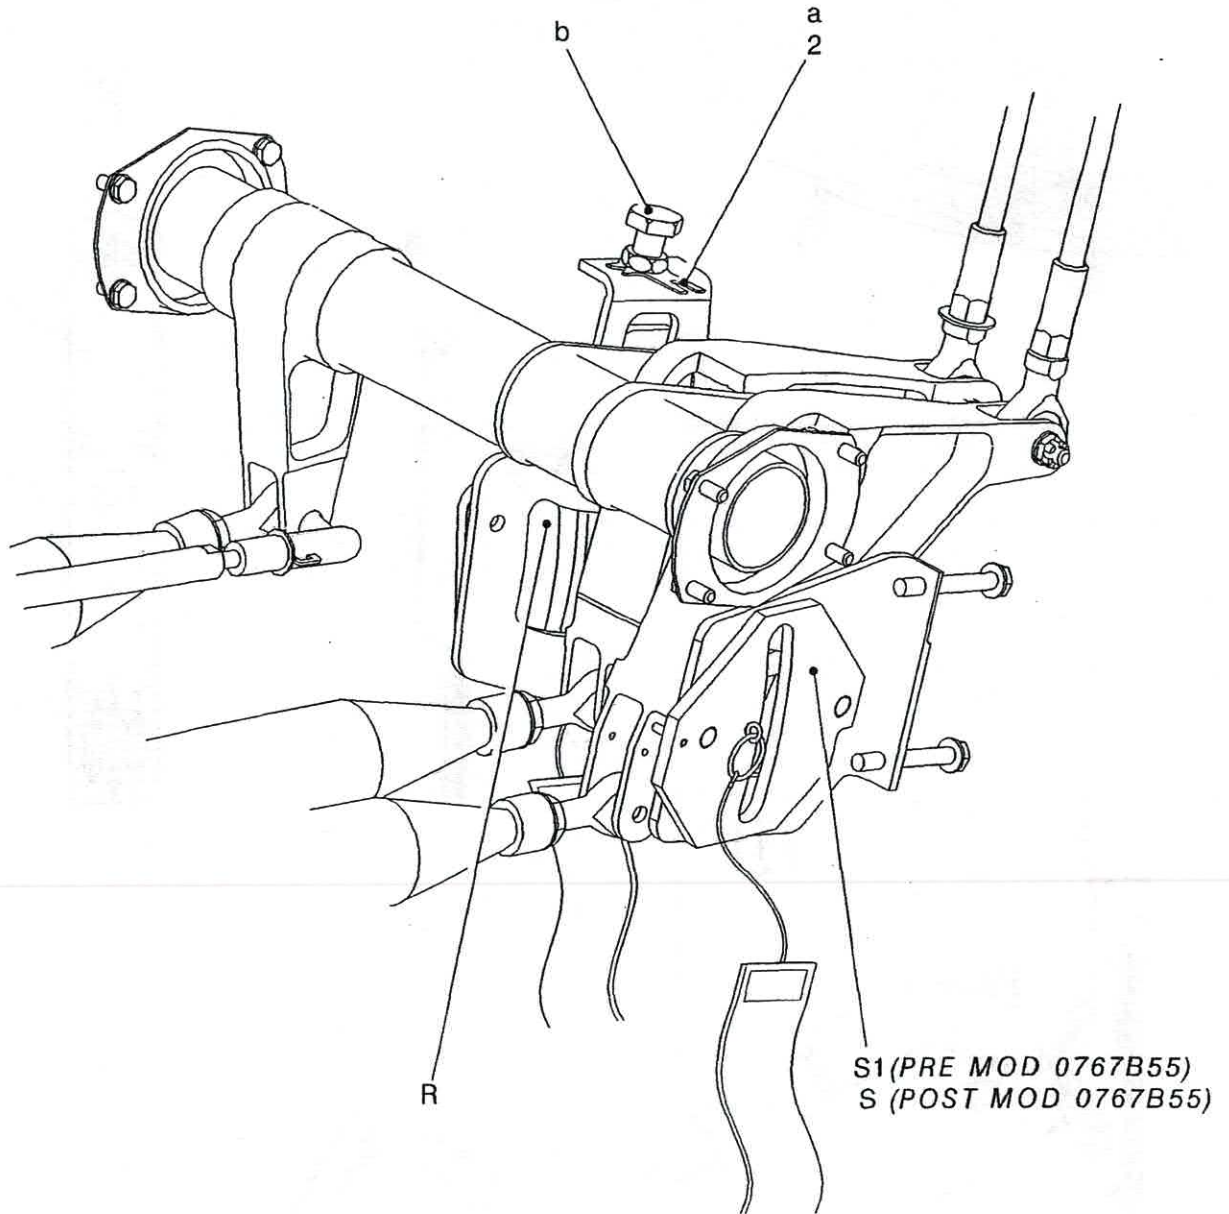

Figure 2
- Lock pitch and roll channels on mixing unit, using pitch locking tab (R), (P/N: 365A94-2762-00) and roll locking tab (S), (P/N: 365A94-2770-00 for aircraft post-MOD 0767B55) and (S1), (P/N: 365A94-2761-00 for aircraft pre-MOD 0767B55) as per Figure 2.
- After obtaining the values prescribed in this table, fold back lockwasher (2) onto the fitting and the locknut as per Figure 2